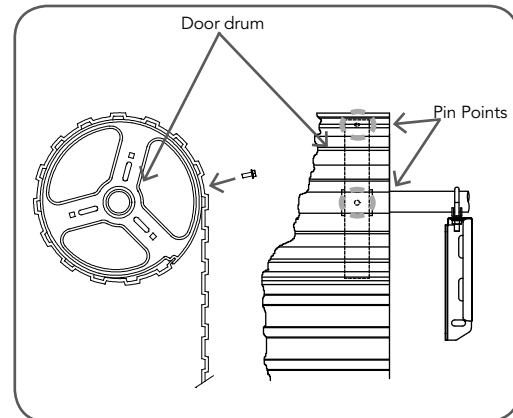

fig 07
- Mark drill holes at both ends of the drum (**Fig. 07**).